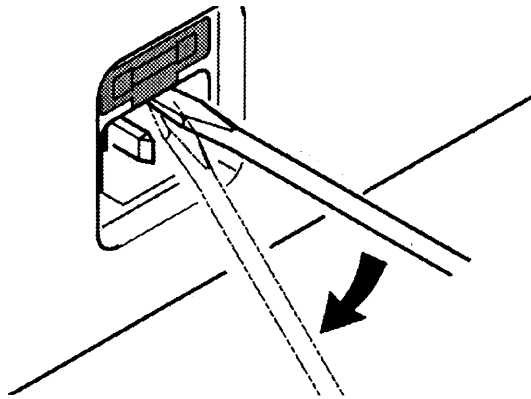

Fig. 1-2 Removing fuse holder
- ① Make sure the POWER switch is turned off (0) and unplug power cable.
- ② Remove fuse holder as shown in Figure 1-2.